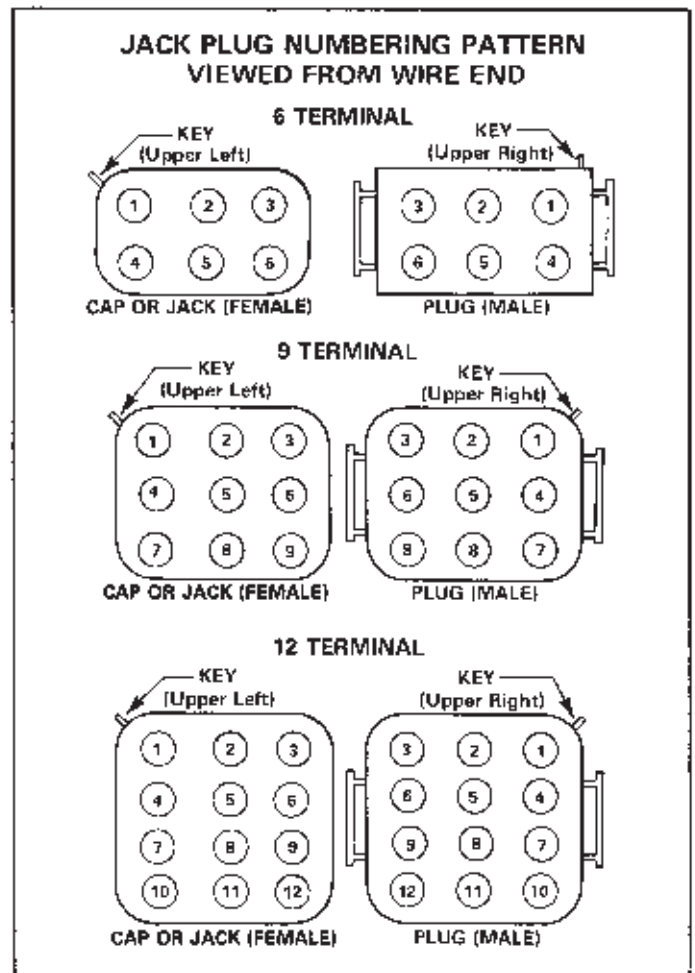

FIGURE 4
- 3 - Terminal numbers on jacks and plugs are located by a ridge on the corner of the plug called the "Key." Refer to Figure 4 for proper numbering sequences.